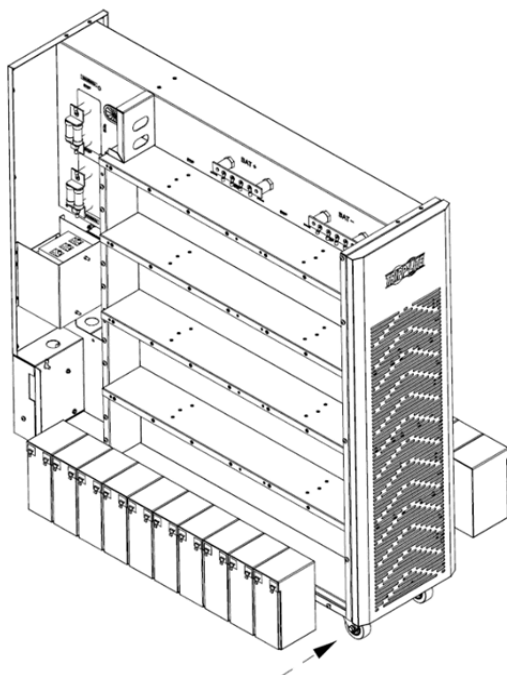

Figure 5-6A
5. Install 10 battery packs in the bottom layer (L1-A, group 1 positive string). Be sure to keep terminal sides of all batteries up (Figure 5-6A).